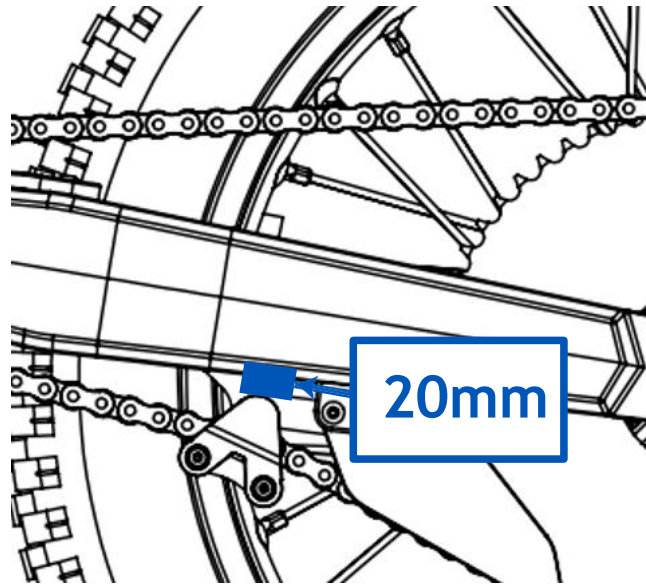

Fig. 16
- Check the chain slack, so that the chain has a slack as indicated in this manual, 20 mm (Figure 16). To check this, turn the wheel and check the slack several times, always measuring from the same point.